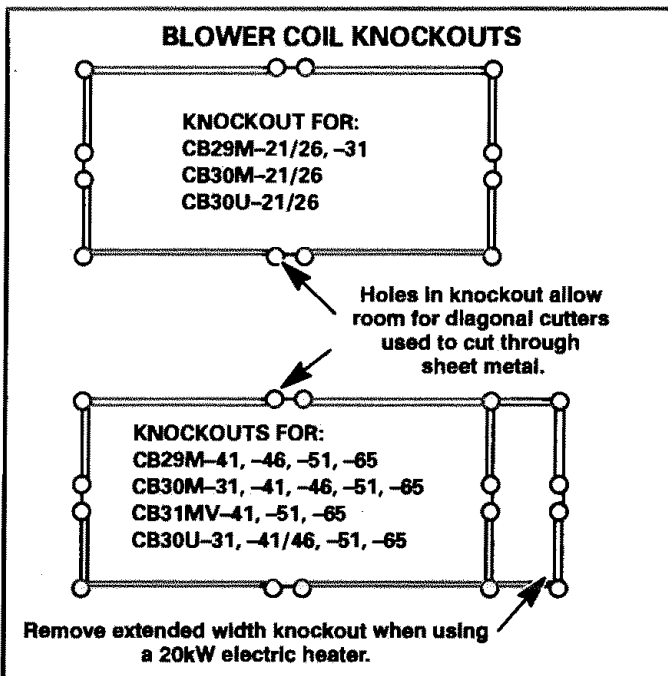

FIGURE 1
- 3 – Remove electric heat knockout in blower coil vestibule panel for the appropriate size of heater used. Remove extended width knockout to allow for installation of 20kW heater. See figure 1.